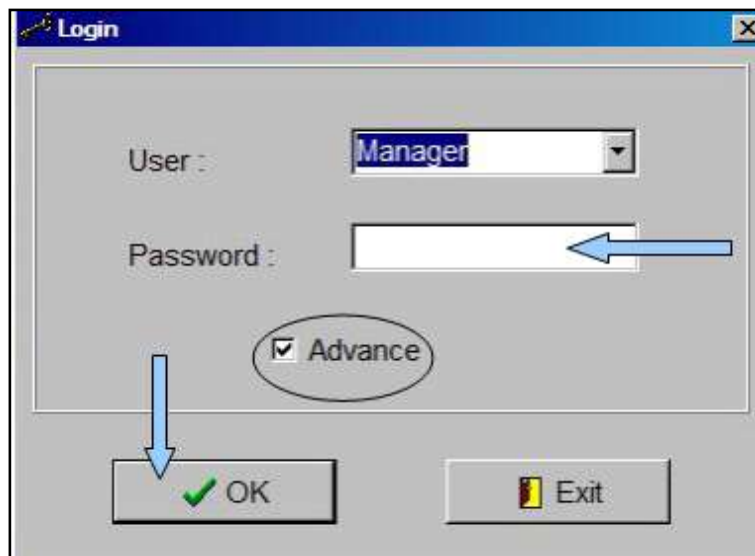

Figure 4-38. NMS Login Screen
4. Verify that the *Advance* box is checked and then click in the password field, **Figure 4-38**.